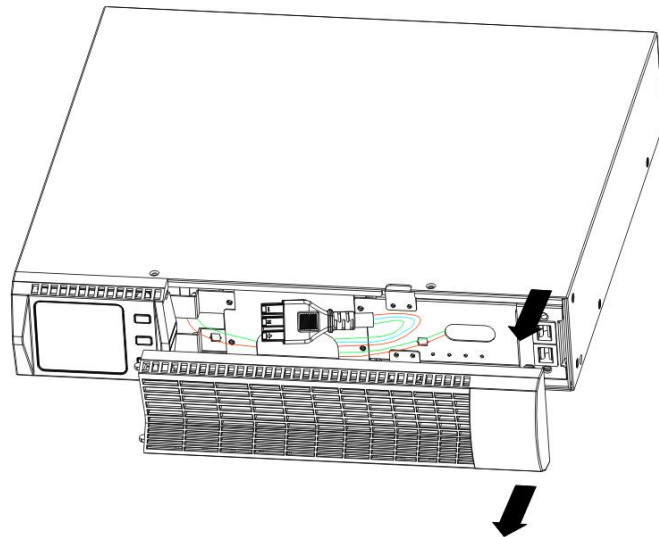

Figure10 Removing the EBP Front Cover
1. Remove the front cover of each EBP and UPS (see Figure 10).